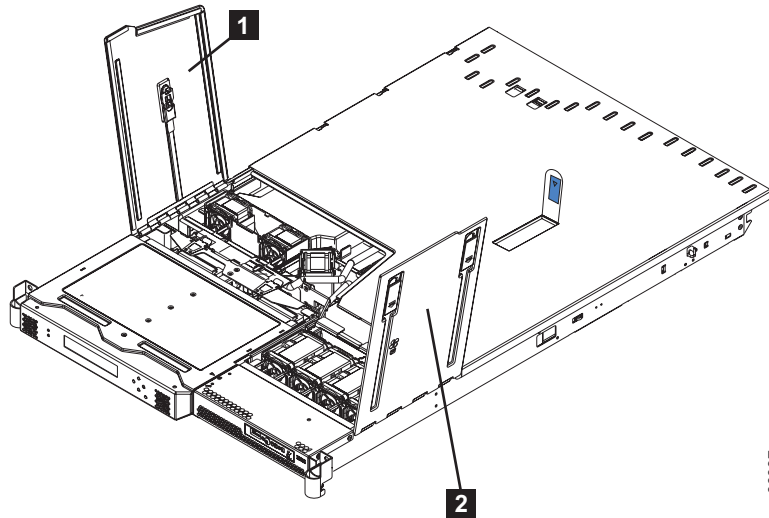

Figure 86. Removing the service controller from the SAN Volume Controller 2145-8G4
6. You can stop pressing the release button and pull the service controller fully out of the frame. See Figure 86